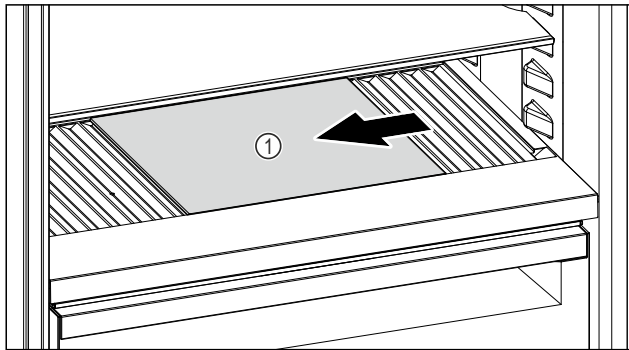

Fig. 252
- Move the glass shelf to Fig. 252 (1) the left, centre or right.